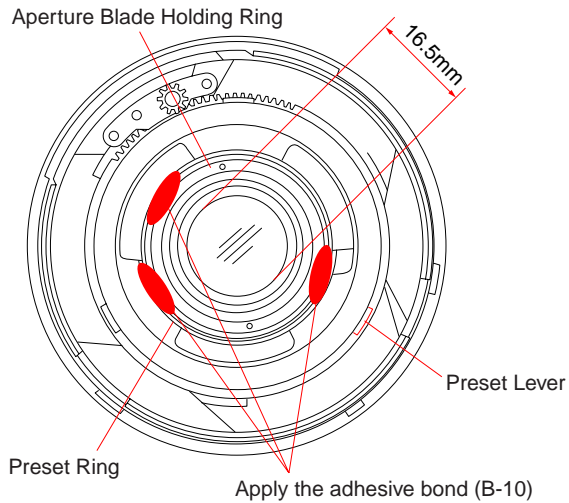

Fig.4-2-9
- 1) Adjust the diameter of inscribed circle of iris blades to about 16.6 mm by rotating the aperture blade holding ring. (Fig. 4-2-9.)